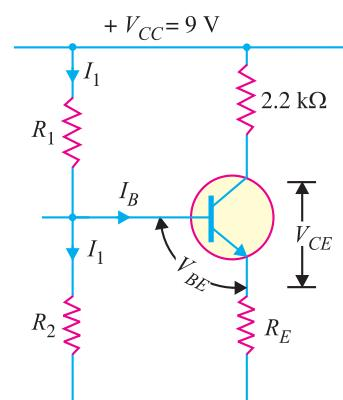

Fig. 9.31
**Example 9.25.** In the circuit shown in Fig. 9.31, the operating point is chosen such that  $I_C = 2\text{mA}$ ,  $V_{CE} = 3\text{V}$ . If  $R_C = 2.2\text{k}\Omega$ ,  $V_{CC} = 9\text{V}$  and  $\beta = 50$ , determine the values of  $R_1$ ,  $R_2$  and  $R_E$ . Take  $V_{BE} = 0.3\text{V}$  and  $I_1 = 10I_B$ .